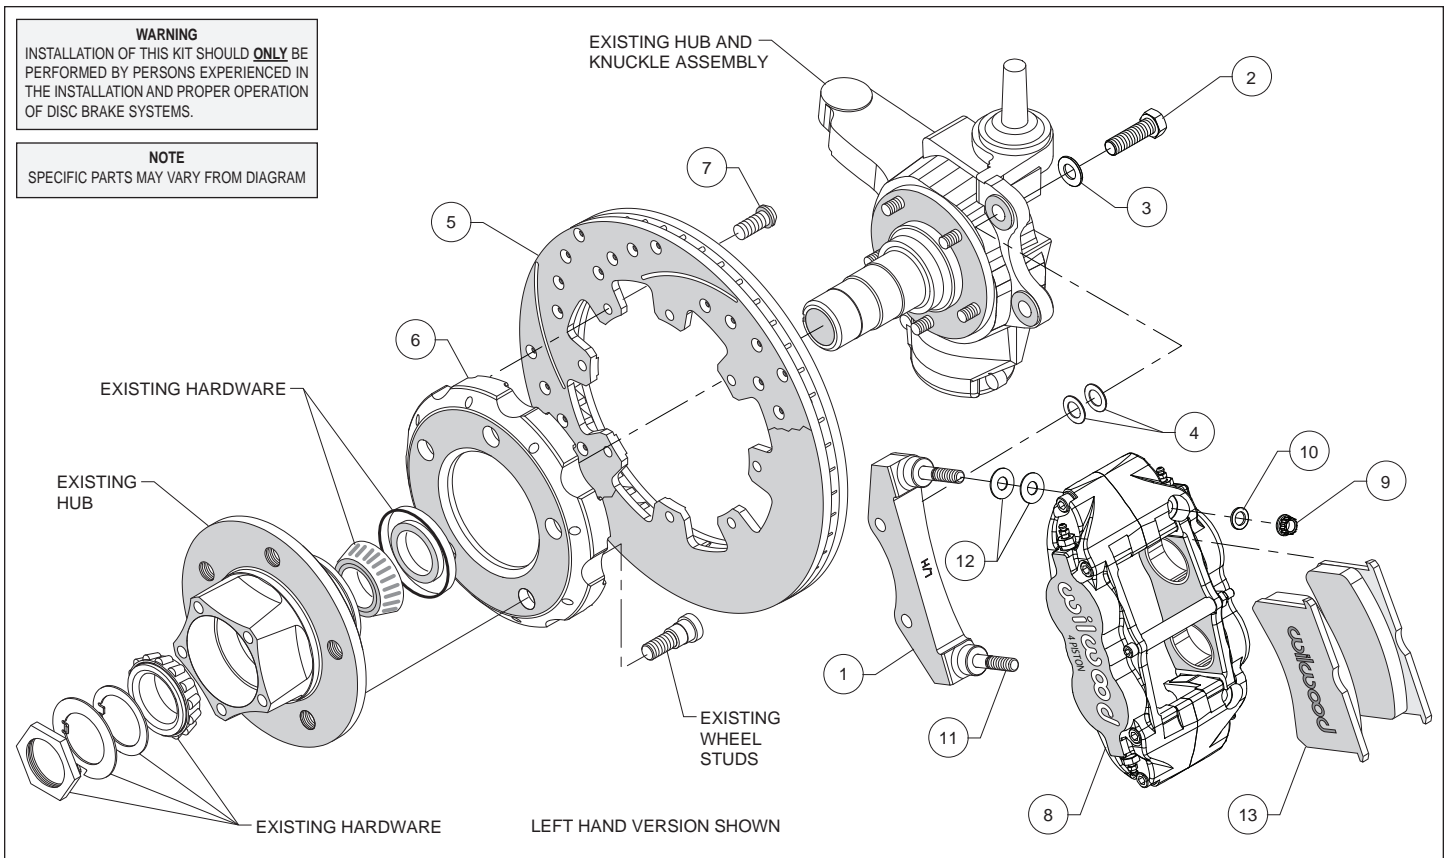

Figure 1. Typical Installation Configuration
**Assembly Instructions** (numbers in parenthesis refer to the parts list and Figure 1 on the preceding pages):
- The caliper mount bracket (1) should initially be installed with clean, dry threads on the mounting bolts. Orient the bracket as shown in Figure 1 and Photo 2 and install using bolts (2) and washers (3). Initially place two .032" thick shims (4) on each bolt between the bracket and upright, Figure 1. Temporarily tighten the mounting bolts. Brackets are labeled R/H and L/H, be sure to install the correct bracket on the applicable side, Photo 2.
- Orient the hat (6) and the OEM hub as shown in Figure 1 and Photo 3. **NOTE:** The hat must fit flush against the axle hub or excessive rotor run out may result. Press fit the wheel studs (we recommend using new wheel studs) thru the holes in the hat and into the existing hub. **NOTE:** We recommend this procedure be performed by a qualified machinist.
- Orient the rotor (5) and the hat/hub assembly as shown in Figure 1 and Photo 4. Attach rotor to hat using bolts (7). Using an alternating sequence, apply red *Loctite*® 271 to the threads, and torque to 25 ft-lbs.
- Pack the small outer OEM bearing cone (we recommend using new bearings) with high temperature disc brake bearing grease and install into hub, as shown in Figure 1.. Slide the hat/rotor/hub assembly onto the spindle. Secure using OEM spindle washer, spindle nut, and nut lock, Photo 6. Adjust bearings per OEM specifications. Install a new cotter pin (not included).
- Lubricate the caliper mounting studs (11) with lightweight oil. Initially place two .035" thick shims (12) on each stud as shown in Figure 1 and Photo 7. Mount the caliper (8) onto the bracket (1) using lock nuts (9) and washers (10), Figure 1 and Photo 8. Temporarily tighten the lock nuts and view the rotor through the top opening of the caliper. The rotor should be centered in the caliper, Photo 9. If not, adjust by adding or subtracting shims (4) between the bracket and the upright. Always use the same